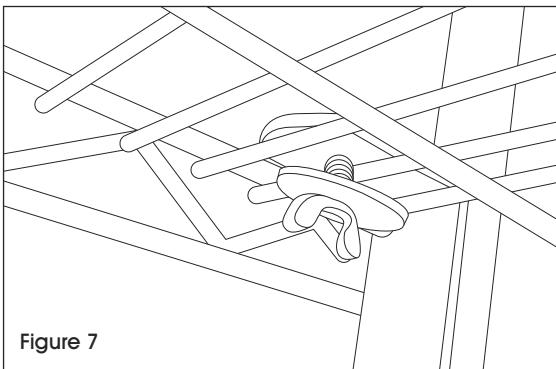

Figure 7
5. Tighten the wing nut underneath the L-bracket and washer. (See Figure 7)